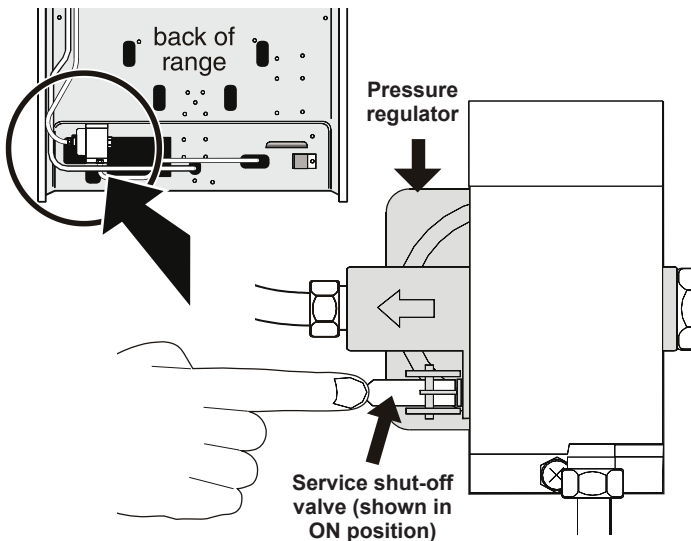

Fig. 11
f. Make sure the **service shut-off valve on pressure regulator is set to the ON position** (See Fig. 11).